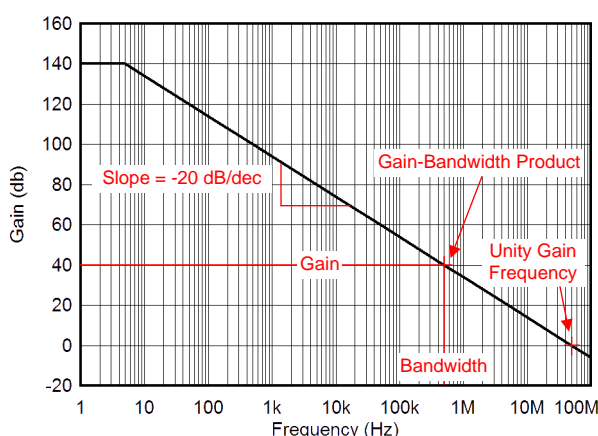

Figure 7-13. Gain-Bandwidth Product and Unity Gain Frequency
The parameters of an amplifier that best describe the small signal dynamic behavior are the gain-bandwidth product (GBP), unity gain frequency (UGF), and phase margin (PM). The GBP is a useful parameter to determine the bandwidth of an application in closed-loop configurations. Equation 4 can be used to approximate the closed loop bandwidth for the OPAx828. Typically, the GBP is a specified parameter with the amplifier configured in a noninverting gain of 100 (40 dB). The GBP of an amplifier is generally assumed to be constant over frequency but in some higher speed amplifiers, constant over frequency is not the case. The OPAx828 have a constant GBP all the way to the UGF; thus, the OPAx828 open-loop gain has a constant -20 dB/decade slope (-6 dB/octave). The UGF is defined as the frequency at which the gain of the amplifier crosses 1 V/V (0 dB). Figure 7-13 illustrates the concept of GBP and UGF. The OPAx828 have both a GBP and UGF of 45 MHz.